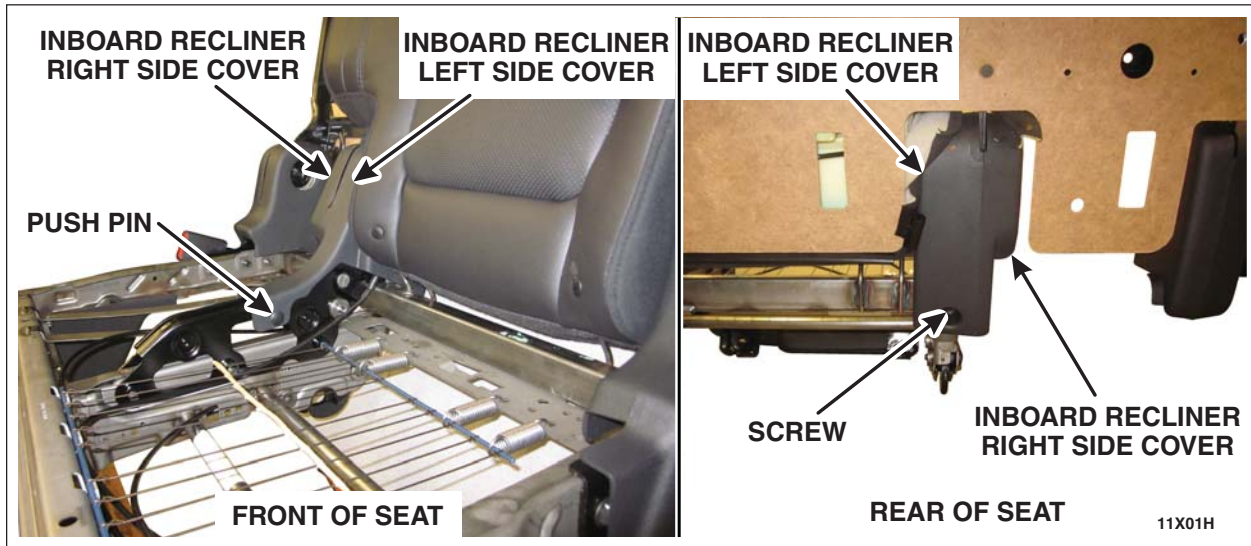

FIGURE 9
23. Remove the inboard recliner right side cover. See Figure 9.
24. Remove the push pin and screw from the inboard recliner left side cover. See Figure 9.
48. Install the inboard recliner covers. See Figure 9.